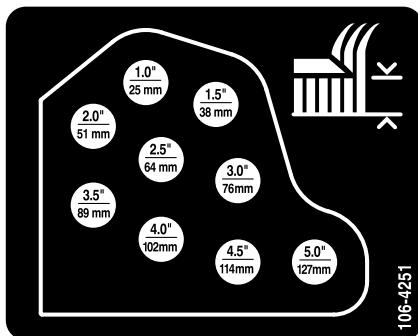

Figure 17
- Mount the height-of-cut chains to the desired height-of-cut hole with the clevis pin and hairpin cotter (Figure 17).